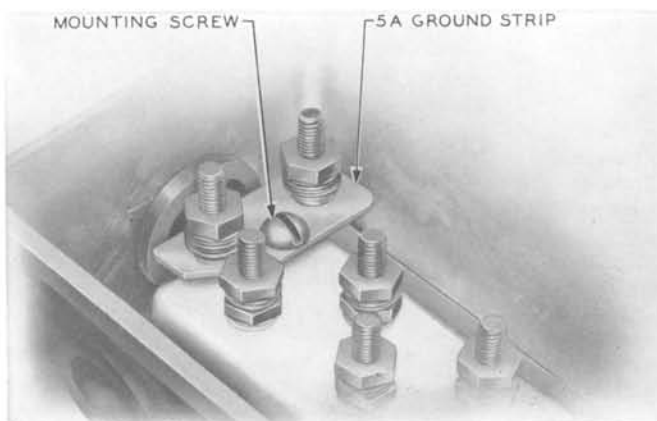

FIG. 12—METHOD OF INSTALLING 5A GROUND STRIP
**5.07** The 5A ground strip is intended for use with the 10- and 16-pair, NC-, NE-, NF-, and NH-type cable terminals. The 5A ground strip is equipped with two binding posts, each having one nut and five washers. The mounting screw for the 5A ground strip is a part of the N-type cable terminal (see Fig. 12).